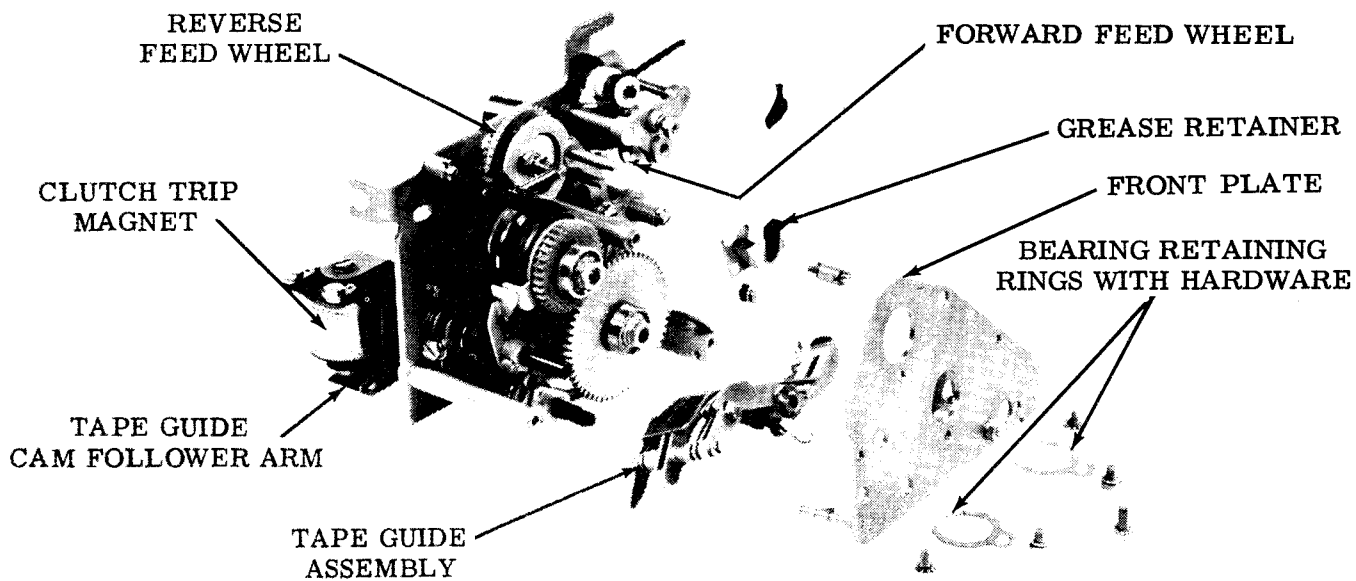

Figure 10 - Punch Backup Mechanism, Front Plate Removed
(2) Remove the magnet assembly by sliding the armature bail (TP320370) out of the lever (TP320374).
3.10 To separate the front and rear plates (Figure 10):
3.13 To remove the drive shaft assembly (TP320380) (Figure 10):
- 3.14 To remove the intermediate shaft assembly (TP320378) (Figure 10):